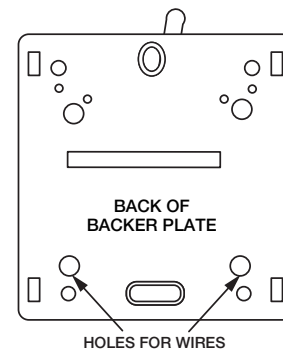

Figure 24.3
- c. Slide thermostat wires through the back of the mounting plate (**Figure 24.3**).